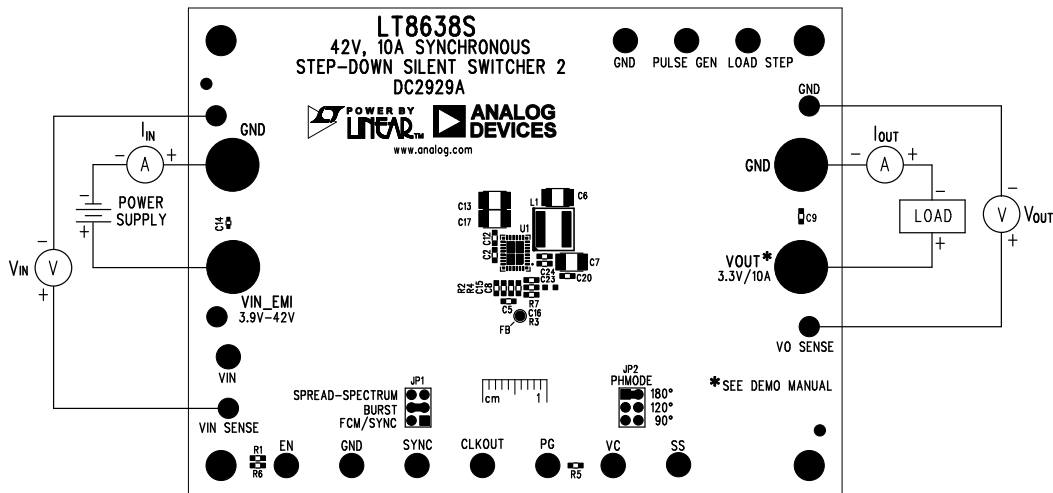

Figure 5. Proper Measurement Equipment Setup
Demonstration circuit 2929A is easy to set up to evaluate the performance of the LT8638S. Refer to Figure 5 for proper measurement equipment setup and follow the procedure below:
9. To test the transient response, connect a signal generator to PULSE GEN terminal, and add a desired base load between VOUT and GND (LOAD shown on Figure 5). Adjust the signal generator with a 2ms period, 5% duty cycle and an amplitude from 1V to 2V to start. Measure the LOAD STEP voltage to observe the current ( $I_{LOADSTEP} = V_{LOADSTEP}/100m\Omega$ ). Adjust the amplitude of the pulse to provide the desired transient. Adjust the rising and falling edge of the pulse to provide the desired ramp rate. Figure 7 shows a load step from 2.5A to 7.5A. The 2.5A base load is added between VOUT and GND, while the 5A step load is controlled by the signal generator at PULSE GEN and measured at LOAD STEP with 0.1V/A ratio.